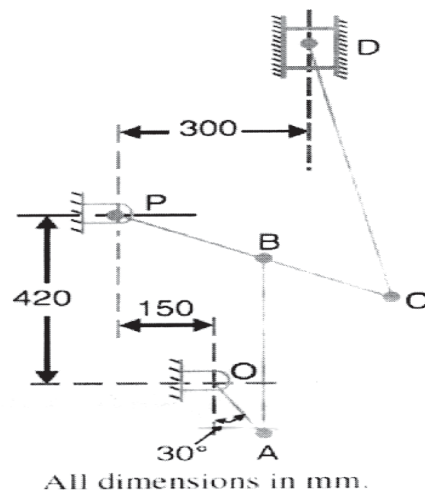

Fig. 1
- Q1) a)** Find out the acceleration of the slider D and the angular acceleration of link CD for the engine mechanism shown in Fig. 1 The crank OA rotates uniformly at 180 r.p.m. in clockwise direction. The various lengths are: OA = 150mm; AB = 450mm; PB = 240mm; BC = 210mm; CD = 660mm.